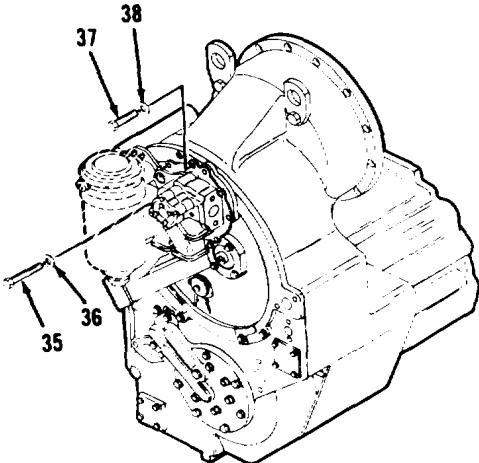

Figure 5-56.
- 12. Remove two bolts (35), lock-washers (36), five bolts (37), and lockwashers (38, Figure 5-56).